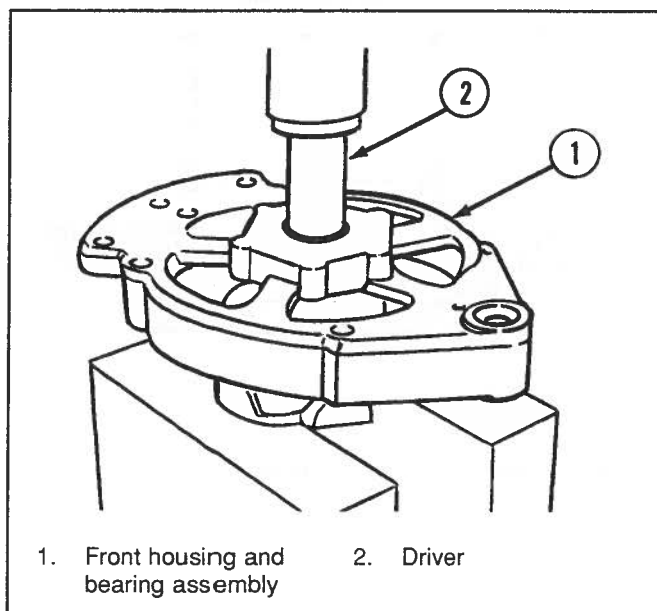

Figure 6-86. Pressing Front Housing And Bearing Onto Rotor
5. Place the rotor (pulley end up) on the bed of an arbor press, on two steel blocks (Figure 6-86).